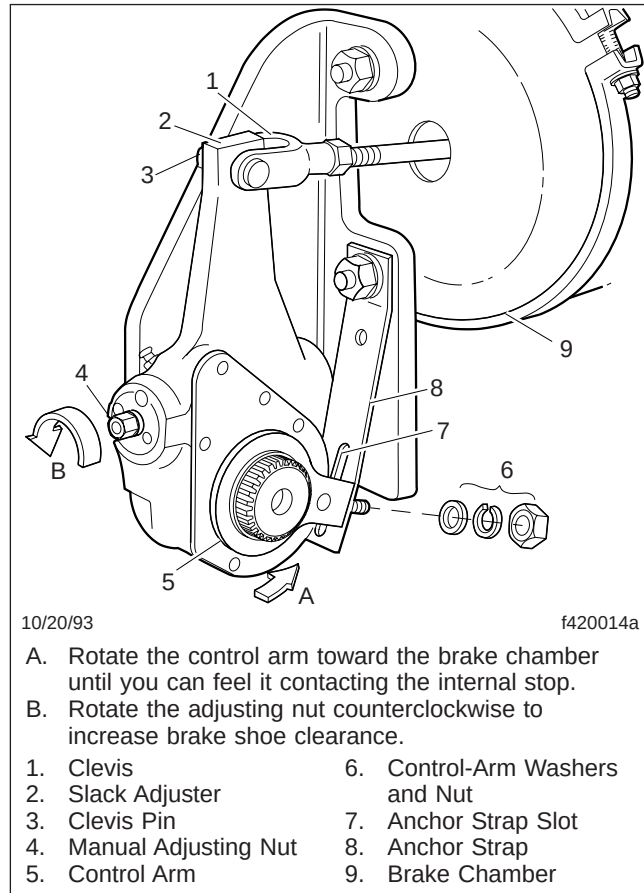

Fig. 4, Haldex (SAB) Automatic Slack Adjuster
2. Inspect each slack adjuster and anchor strap assembly for damage. See Fig. 4. Replace any damaged parts.
If the holes in the adjuster and the clevis do not remain aligned, it means the control arm is not against the internal body stop. This indicates an incorrect installation. Move the adjuster into alignment with the clevis hole, and install the clevis pin. Loosen the control-arm nut, and rotate the control arm toward the brake chamber until you can feel it contacting the internal stop (see arrow A in Fig. 4). Be sure the control-arm stud moves freely in the slot of the anchor strap.
NOTE: Brake shoe clearance can be increased for inspection or brake system servicing by turning the manual adjusting nut counterclockwise (see arrow B in Fig. 4). Turning it in that direction takes considerable effort and may be accompanied by a ratcheting sound.